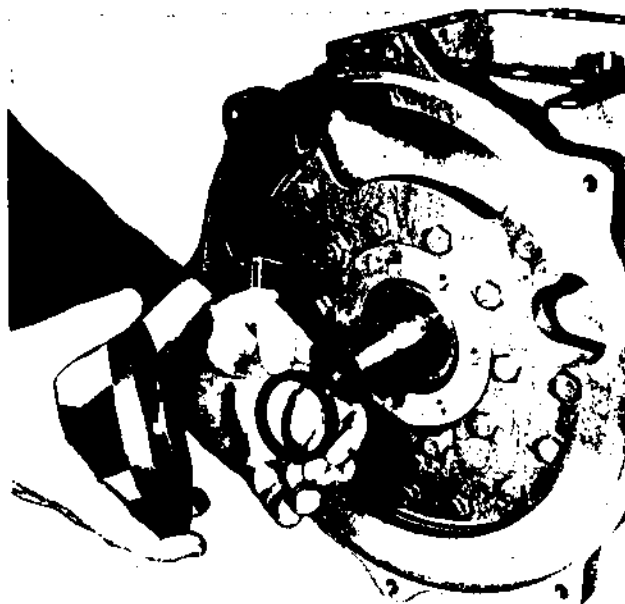

Figure 3-11. Shaft Seal Cover and Carbon Washer Removal
- a. Remove capscrews and remove shaft seal cover and carbon washer. (See figure 3-11.)